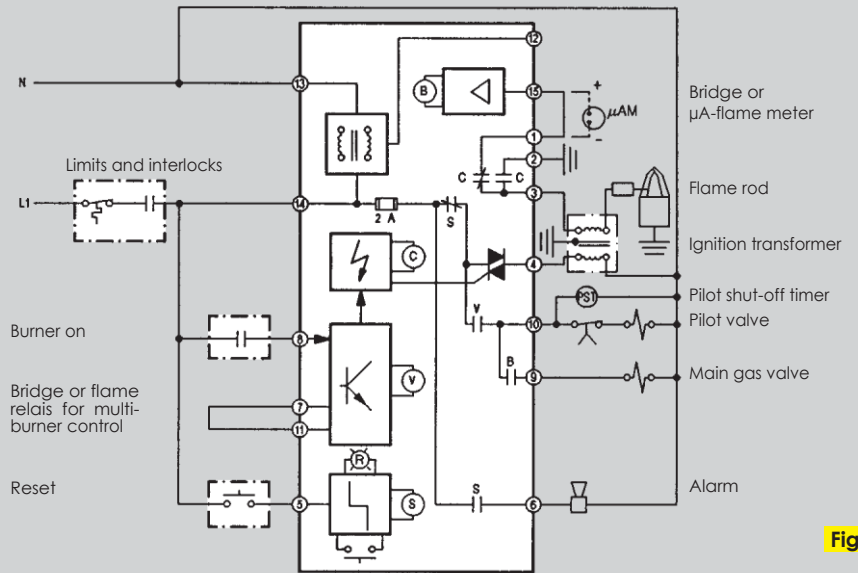

Fig. 1
**Operation with one electrode (Fig. 1)**